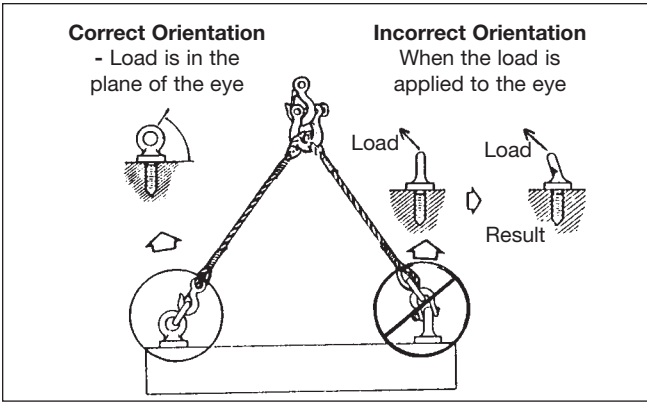

Figure 27
- Apply loads to the plane of the eye, never in the other direction (Figure 27). This is